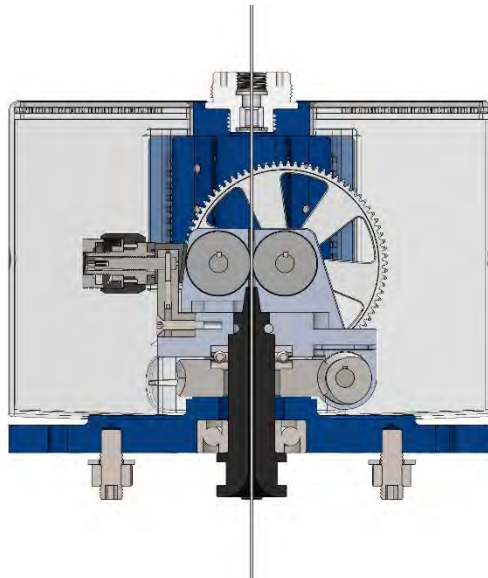

Figure 26
8. Install the cover as indicated in chapter 3.4, taking care to correctly insert the wire through the opening of the dome. Figure 26;